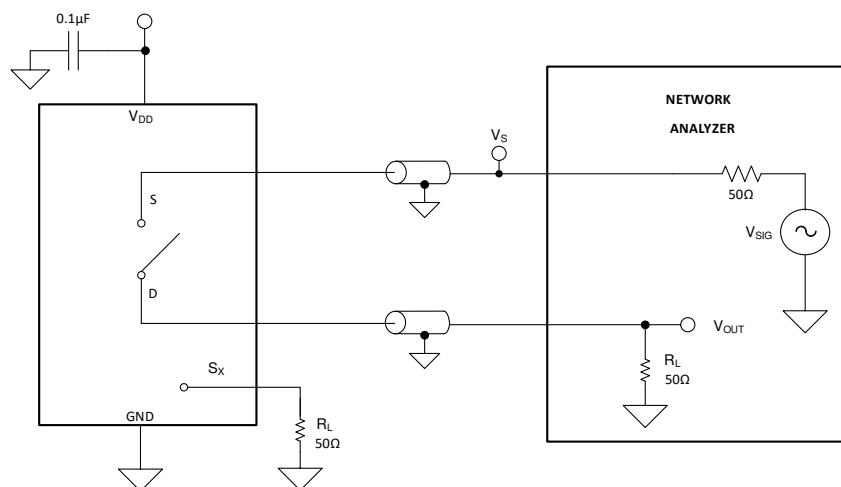

Figure 6-8. Off Isolation Measurement Setup
Off isolation is defined as the ratio of the signal at the drain pin (D) of the device when a signal is applied to the source pin (Sx) of an off-channel. Figure 6-8 shows the setup used to measure, and the equation used to calculate off isolation.